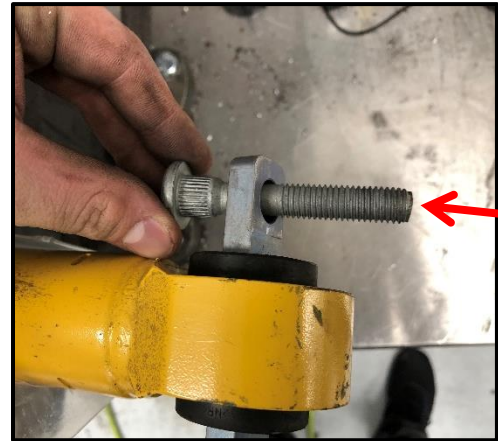

Figure 8
11. Remove lower strut studs from struts using a hammer with the strut supported in a vice or by using a press. Removal of the lower strut studs and using the provided hardware will aid in the reassembly of the vehicle (**Figure 8**).